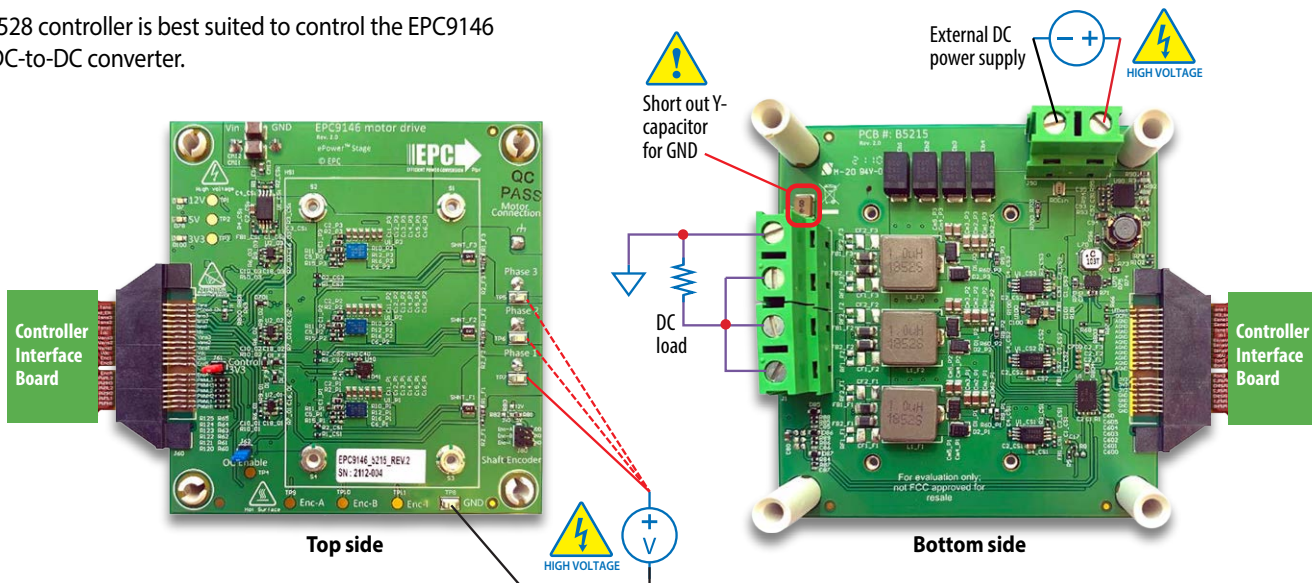
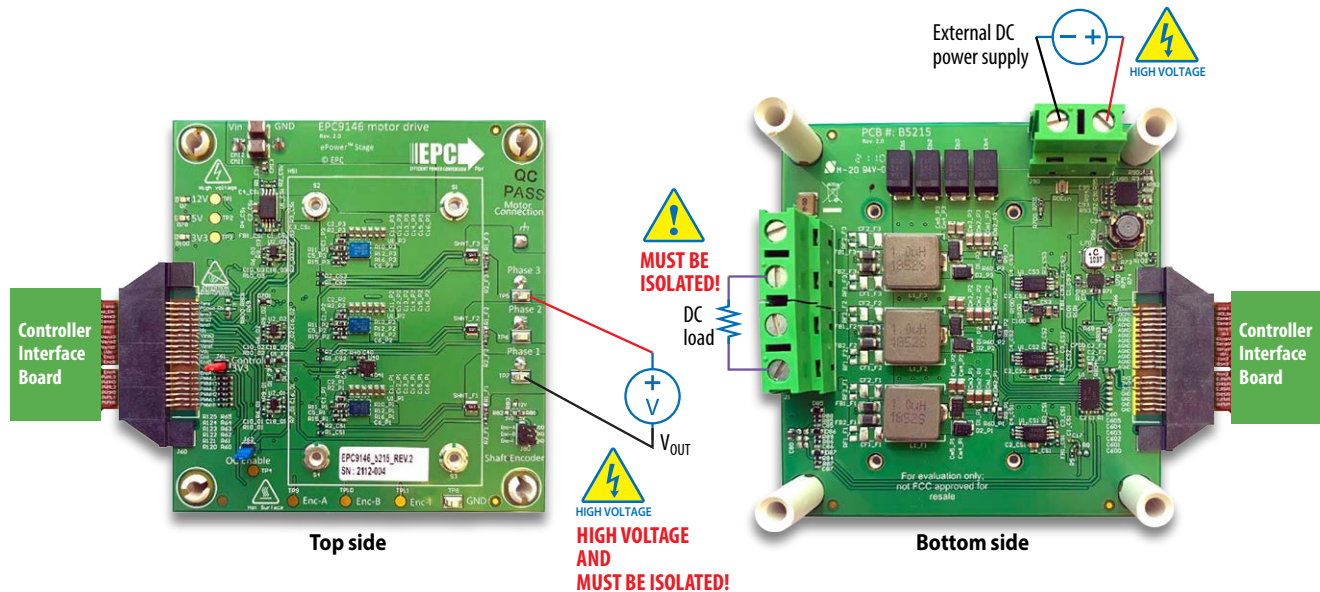

Figure 5: Connection diagram of the EPC9146 configured as a multi-phase converter
Figure 6: Connection diagram of the EPC9146 configured as a full bridge converter
The EPC9146 can also be configured as multi-phase synchronous buck converter with either 2 or 3 phase options. When configured as a 2-phase converter, the user can choose any combination of output but should make use of the applicable on-board inductor pad allocations, with appropriate value for the inductor at the chosen operating frequency. **In this configuration it is important to removed the Y-capacitor (CY) and short out the pads with a conductor that can carry the full rated load current.** The earth connection then becomes the ground (GNDP) return as shown in figure 5. The output voltage can be measured using any on the phase voltage test points (TP5, TP6, or TP7) with respect to the ground (GNDP) using TP8.
The EPC9146 can also be configured as full bridge converter where any two of the three phases can be used. A full bridge connection example is shown in figure 6. Since the full-bridge converter is not specifically referenced to the ground (GNDP), the user must take appropriate measures to ensure the correct load connection. The output voltage can be measured using the applicable phase voltage test points (TP5, TP6, or TP7). The user must ensure that the measurement system is isolated for this type of measurement. Alternatively the output voltage can also be measured using the same technique given in figure 5, using the common ground (GNDP) and subtracting the one signal from the other.